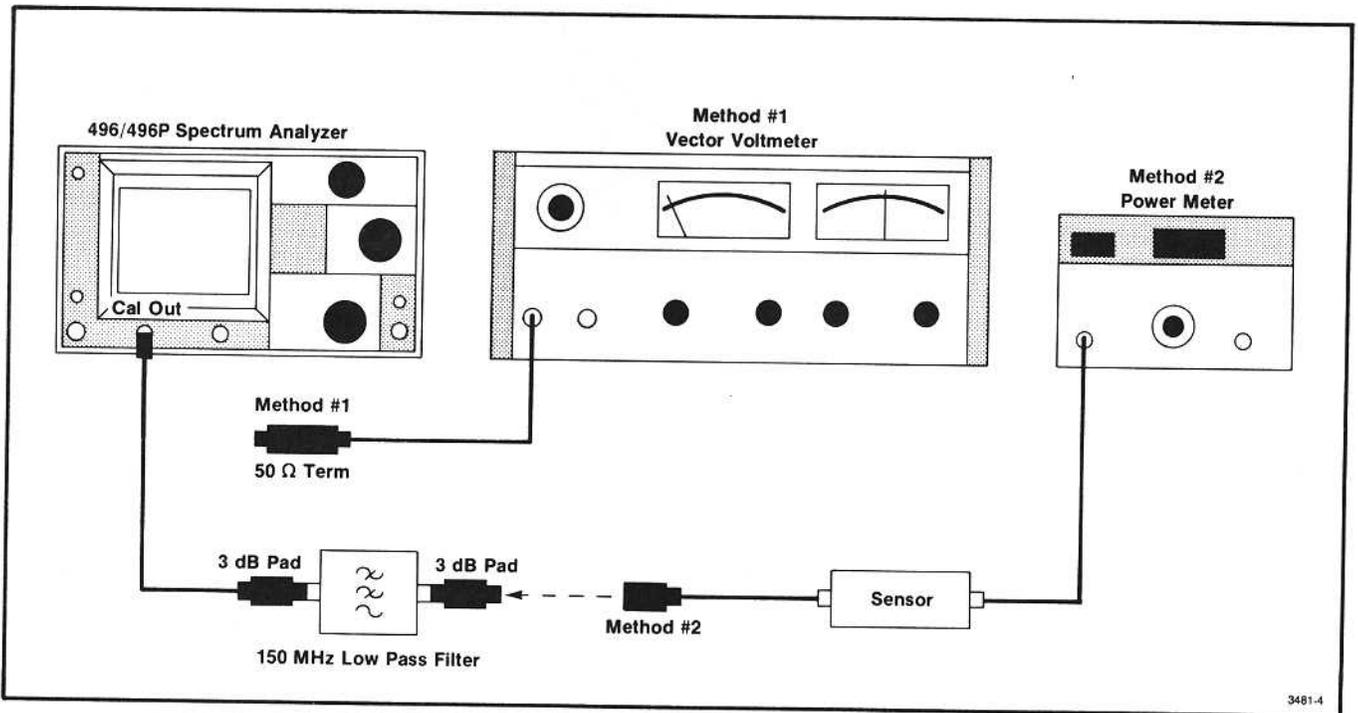

Fig. 3-2. Test equipment setup showing two methods that check calibrator output level.
a. Terminate the voltmeter probe with a 50  $\Omega$  feedthrough termination and then connect the terminated probe to the 496/496P CAL OUT connector (Fig. 3-2).
a. Test equipment setup is shown in Fig. 3-2.